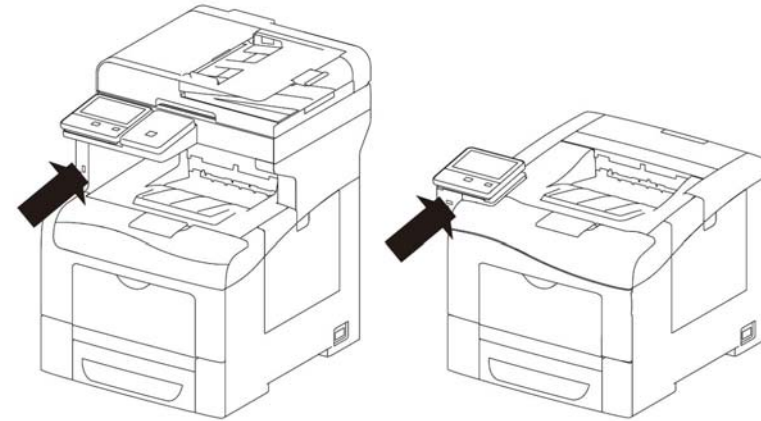

Figure 12 USB Flash drive connector
5. Insert the USB Flash drive, Figure 12.